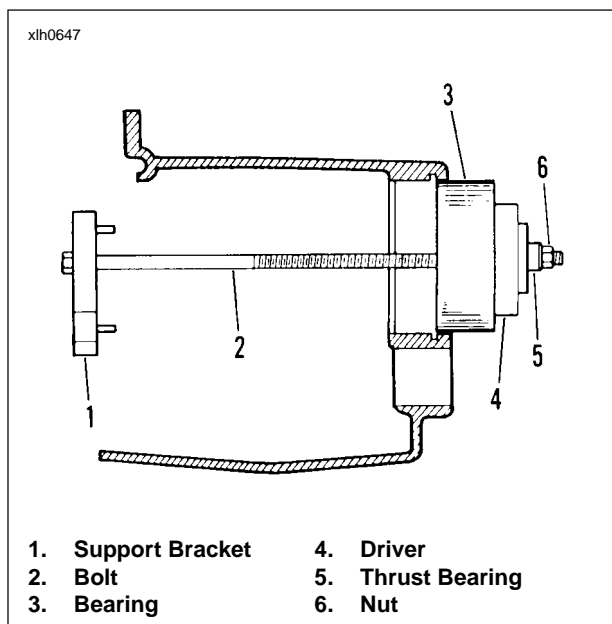

Figure 6-57. Installing Mainshaft Ball Bearing
2. See Figure 6-57. Insert bolt (2) through support bracket (1), new bearing (3), driver (4) and thrust bearing (5). Thread nut (6) on end of bolt. Tighten nut carefully until bearing is started in bore squarely. Tighten nut (6) until bearing is seated against shoulder in bore.